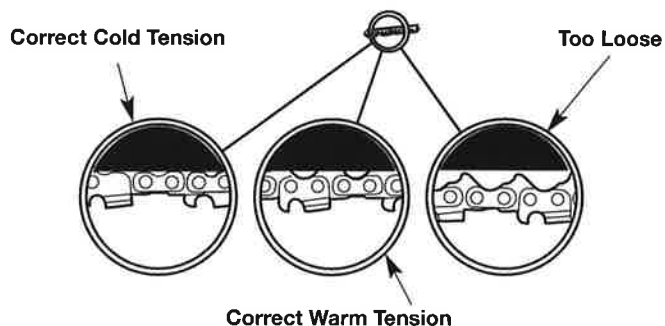

Fig. 27
The desired chain tension depends upon the temperature of the saw chain (Fig. 27).
- **Cold Chain Tensioning** - The saw chain should fit snugly against the underside of the guide bar. There should be no sag (Fig. 27).
- **Warm Chain Tensioning** - The saw chain will expand as it heats up during operation. The drive links should hang approximately 1/16 inch (1.3 mm) out of the guide bar groove (Fig. 27).